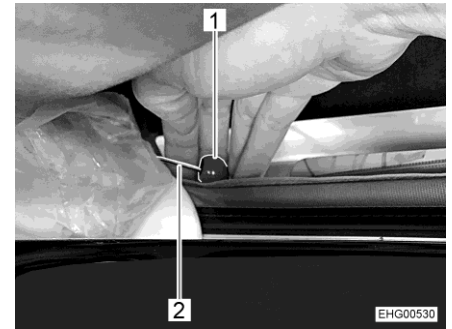

Fig. 55 Emergency release
- Pull the red button (Fig. 55,1) of the cable control (Fig. 55,2) on both sides.